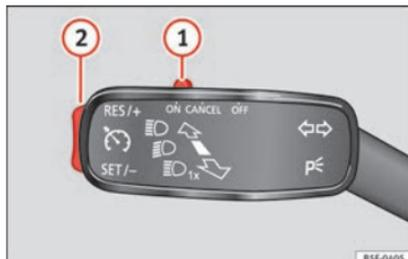

Fig. 40 Turn signal and main beam headlight lever: switches and controls for operating the CCS
- Switching on the CCS: Move switch » » » **Fig. 40 1** to **ON**. The system is on. If no speed has been programmed, the system will not control it.
- Activating the CCS: Press button » » » **Fig. 40 2** in the **SET/-** area. The current speed is memorised and controlled.
- Temporarily switching off the CCS: Move switch » » » **Fig. 40 1** to **CANCEL** or push the brake. The cruise control system is switched off temporarily.
- Reactivating the CCS: Press button » » » **Fig. 40 2** in **RES/+**. The memorised speed is saved and controlled again.
- Switching off the CCS: Move switch » » » **Fig. 40 1** to **OFF**. The system is disconnected and the memorised speed is deleted.